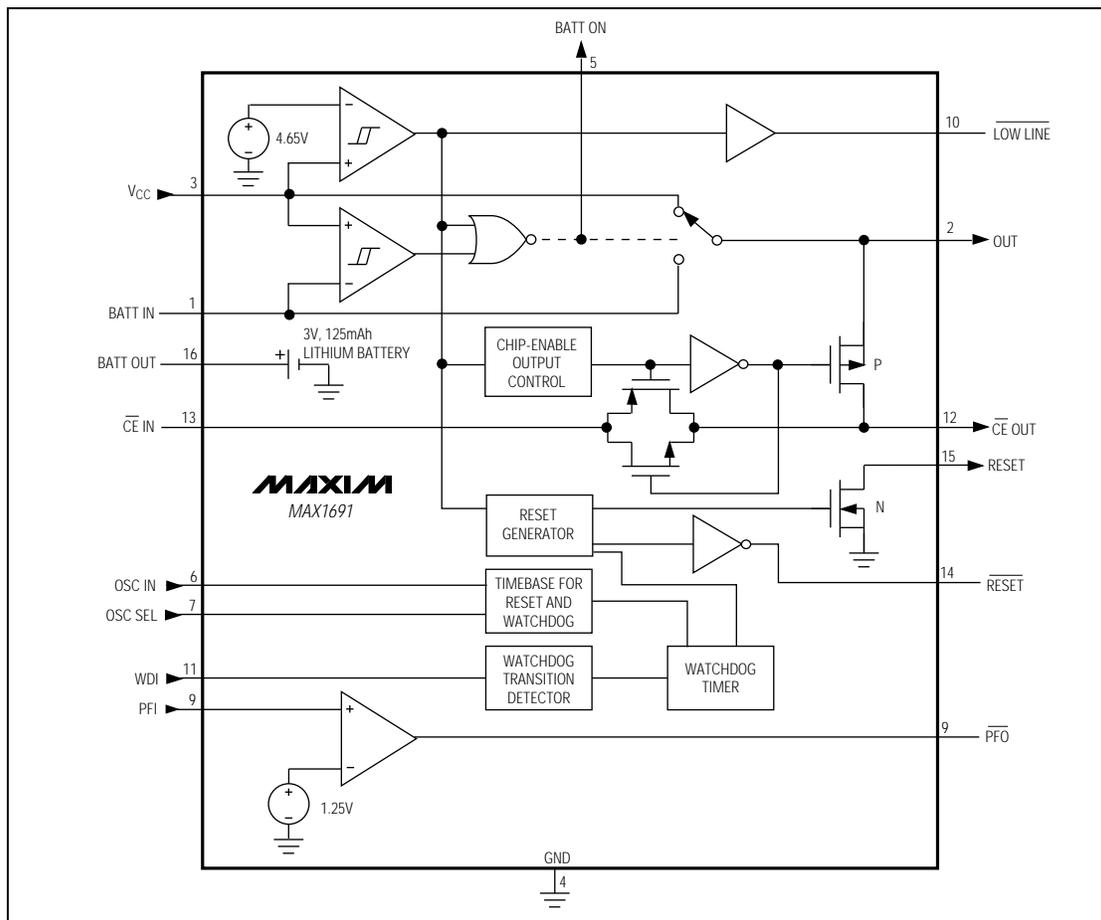

Figure 4. Block Diagram
The MAX1691 provides internal gating of chip-enable signals to prevent erroneous data from being written to CMOS RAM in case of power failure. During normal operation, the chip-enable gate is enabled and passes all chip-enable (CE) transitions. When reset is asserted, this path becomes disabled, preventing erroneous data from corrupting the CMOS RAM. The MAX1691 uses a series transmission gate from $\overline{\text{CE}} \text{ IN}$ to $\overline{\text{CE}} \text{ OUT}$ (Figure 4).